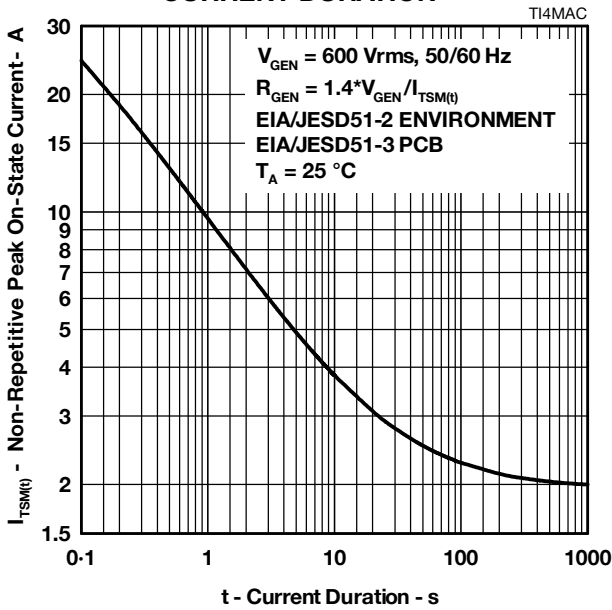

Figure 9.
5. EIA/JESD51-2 environment and EIA/JESD51-3 PCB with standard footprint dimensions connected with 5 A rated printed wiring track widths. See Figure 9 for the current ratings at other durations. Derate current values at  $-0.61\text{ } \%/^\circ\text{C}$  for ambient temperatures above  $25\text{ }^\circ\text{C}$ .
The protector can withstand currents applied for times not exceeding those shown in Figure 9. Currents that exceed these times must be terminated or reduced to avoid protector failure. Fuses, PTC (Positive Temperature Coefficient) thermistors and fusible resistors are overcurrent protection devices which can be used to reduce the current flow. Protective fuses may range from a few hundred milliamperes to one ampere. In some cases, it may be necessary to add some extra series resistance to prevent the fuse opening during impulse testing. The current versus time characteristic of the overcurrent protector must be below the line shown in Figure 9. In some cases, there may be a further time limit imposed by the test standard (e.g. UL 1459 wiring simulator failure).